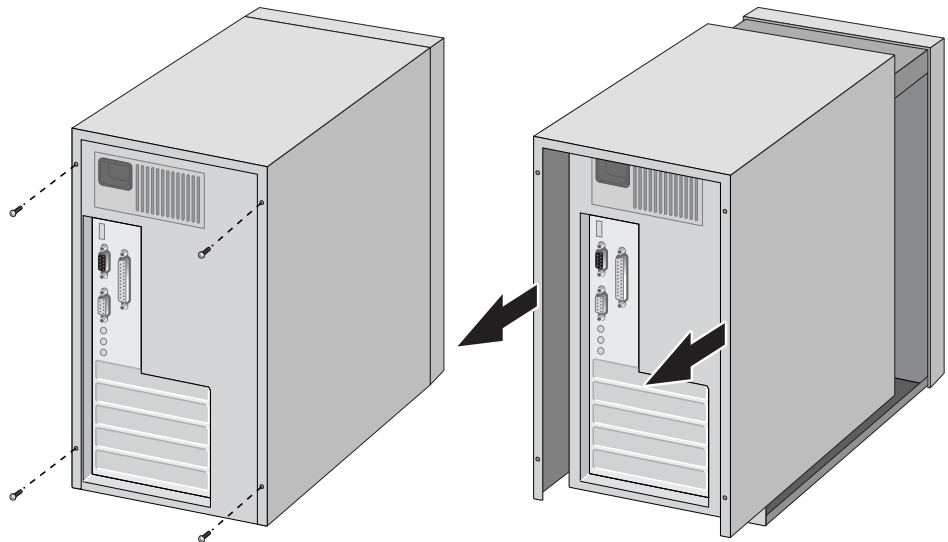

Figure 4. Removing the PC Cover
2. Remove the system cover and select any appropriate empty PCI slot. See Figure 4.